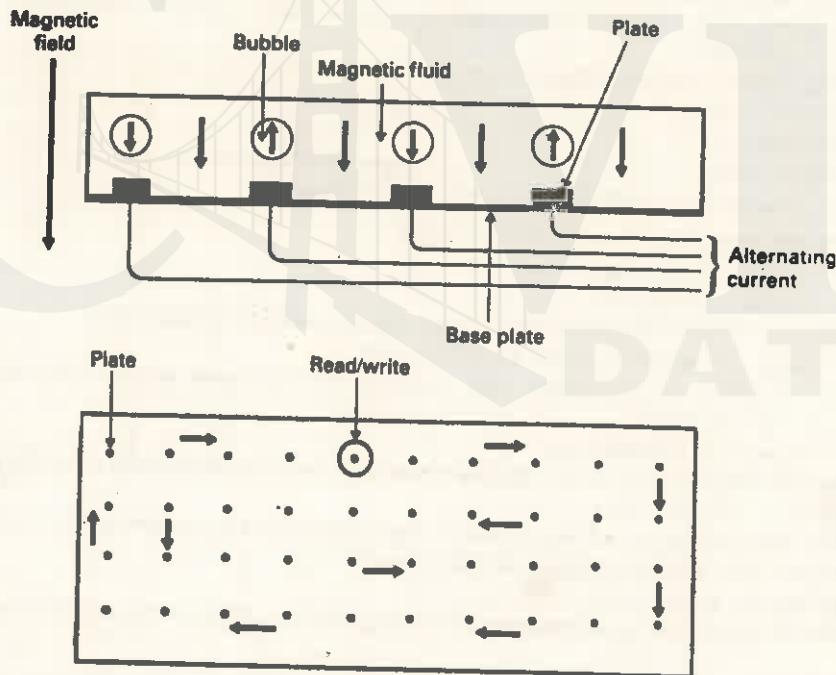

Fig. 36.29. Structure of bubble memory.
(4) Semiconductor Memories
(5) Magnetic Bubble Memory
- The devices comprise a base plate upon which a pattern of electrical plates is arranged. An alternating current can be applied to each of the plates in turn so as to cause the movement of magnetic material from one place to the next. Upon the base plate a magnetic fluid (Fig. 36.29) is placed and kept in contact with the base plate by being encapsulated.
- The *operation* of the bubble memory is like this. Data is written to the memory by sending the *bit* pattern to the memory, whenever there is a *one* (1) *bit* the write assembly causes the current bubble to be inverted relative to the rest of the fluid. If there is a *zero* (0), then the bubble has the same orientation as the rest of the fluid. The applied alternating current then causes the bubble to move to the next plate and so on until the whole of the data has been encoded.